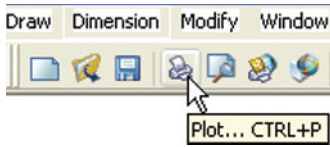

Fig. 19.7 The **Plot** tool icon from the **Standard New** toolbar
9. Click the **Plot** tool icon in the **Standard New** toolbar (Fig. 19.7). A **Plot** dialog appears.